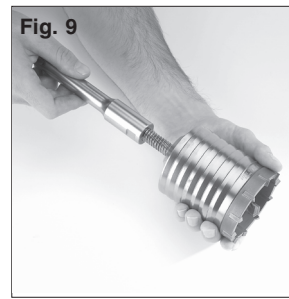

Fig. 9
1. Clean and lubricate the threads on the adapter and core bit to make later removal easier. Screw the threaded end of the centering bit into the core bit (Fig. 9). Thread the adapter shank to the rear of the core bit.